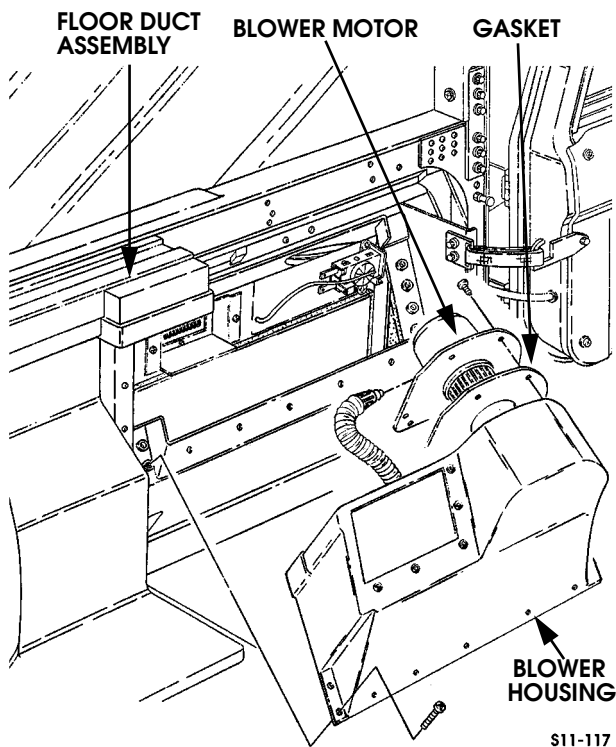

Figure 11-30: Blower Motor Location
9. Remove blower housing from vehicle (Figure 11-30).
1. Secure blower motor to blower housing with six screws, starwasher, and electrical spade connector (Figure 11-30).